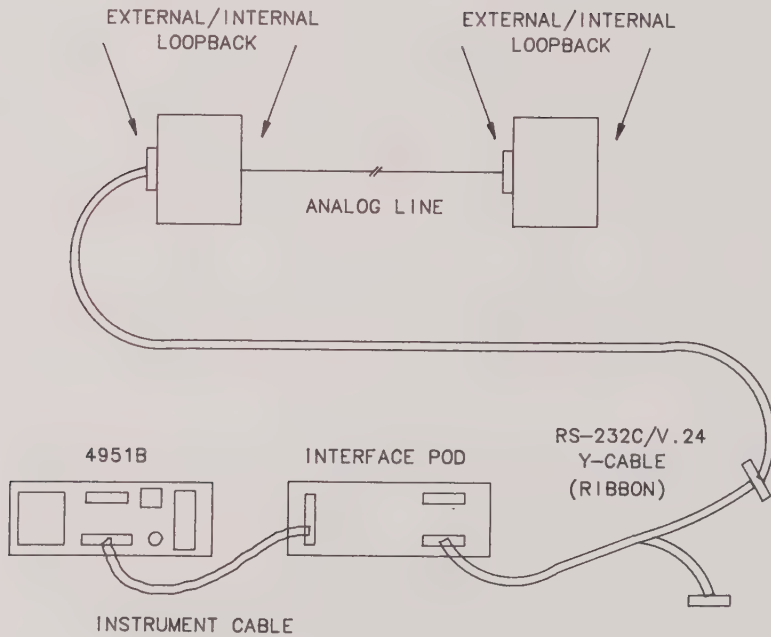

Figure 2-4. Loopback BERT Hookup
- b. Loopback. Substitute an HP 4951B for only one DTE and "loopback" the modem or terminal at the other end of the line. (Figure 2-4).